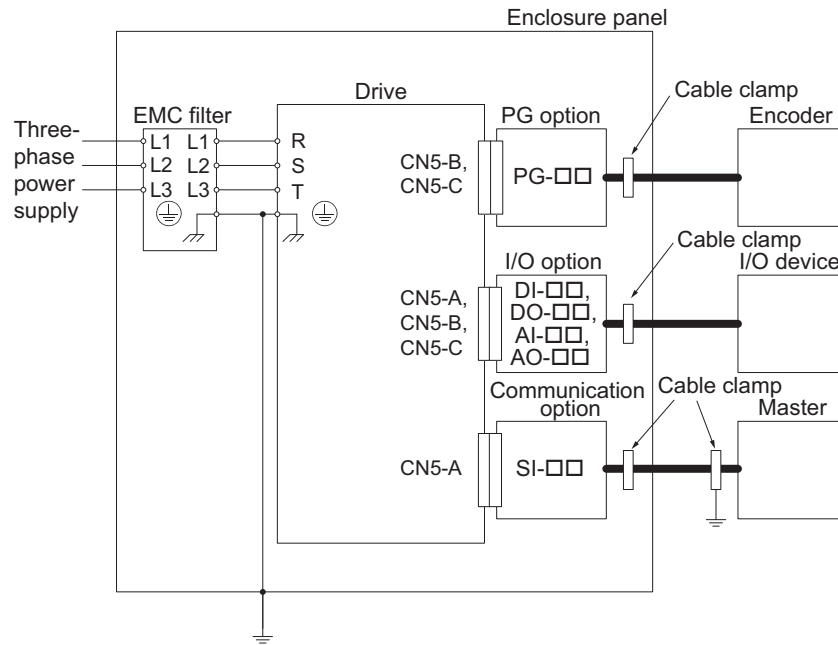

Figure 29 Option Installation for CE Compliance
2. Keep wiring as short as possible and ground the largest possible surface area of the shield to the metal panel according to Figure 29.